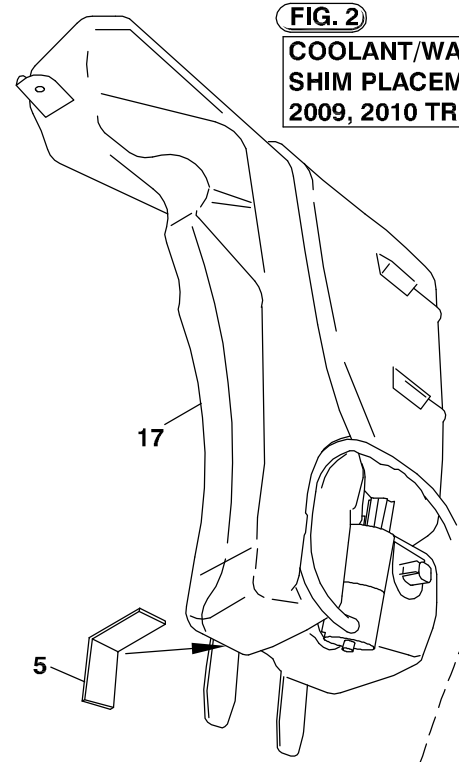

FIG. 1
5. Remove OEM bolt from crankshaft dampener. Install the DewEze crank pulley (6) with the M14 bolt (12) and M14 washer (13) making sure drive pin indexes to one of the holes in the OEM pulley web. Also be sure the pilot centers in the OEM pulley.
6. Rotate the radiator and heater hose clamps to point up so they clear the pump bracket. Remove the OEM bolts at Locations A, B, and C. Install the pump bracket (1) with the M8 x 110 bolt (11) at Location A. Place the M8 x 160 bolt (10) at Location B. Place the M8 x 150 bolt (9) at Location C. Note: The tube below Hole A may need to be bent away from the back of the bracket after installation.
7. Install tensioner using the M10 x 60 socket head bolt (14). Install the pump with two 3/8 x 1 flange head bolts (20). Mount the clutch coil (7a) to the pump bracket with four 1/4 x 1/2 flange bolts. Mount the clutch pulley (7b) to the pump shaft with the 5/16 x 1 1/4 bolt and heavy flat washer making sure the key is in place on the shaft.
8. Install belt (22) as shown in Fig. 1.